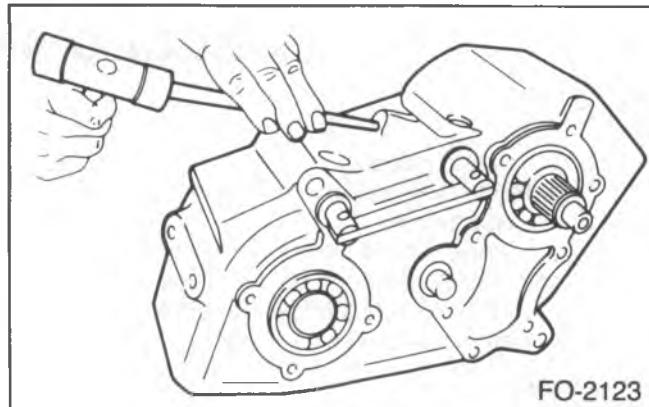

Figure 14—Installing the Shift Fork Roll Pin
5. Input shaft bearing (12) and shaft (22) into the case.
6. Range rail (39) into the case.
7. Sliding clutch (34) and fork (77).
- Place the assembly over the input shaft (40) in the case.
- Position the assembly to receive the range rail (39).
8. Lock pins (36).
- Drive the lock pins into the forks (figure 14).